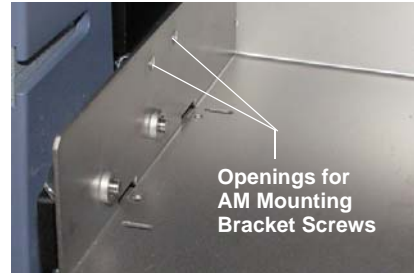

Figure B-27. *Openings for AM Mounting Bracket Screws (Left Side)*
6. For each bracket, align the two captive screws on the bracket with the openings on the AM component tray. See Figure B-26 for the right-side location and Figure B-27 for the left-side location. Tighten the screws.
- c. Press the guide onto the tray (see Figure B-27). Use a slotted screwdriver to tighten the attachment screws.